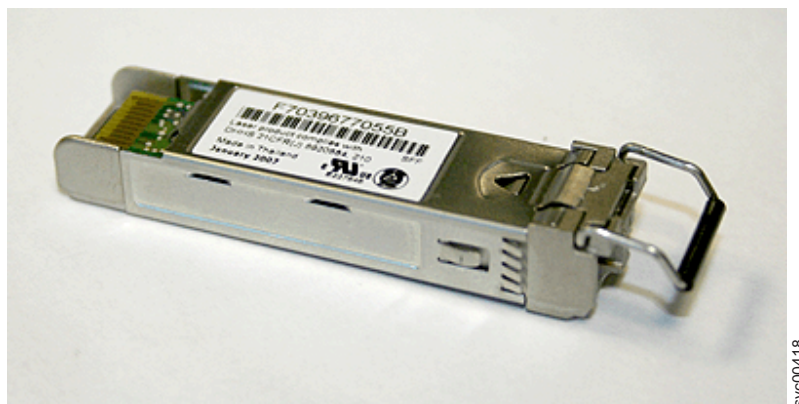

Figure 166. SFP transceiver
4. Push the new SFP transceiver into the aperture and ensure it is securely pushed home. The SFP transceiver usually locks into place without having to swing the release handle until it locks flush with the SFP transceiver. Figure 166 illustrates an SFP transceiver and its release handle.